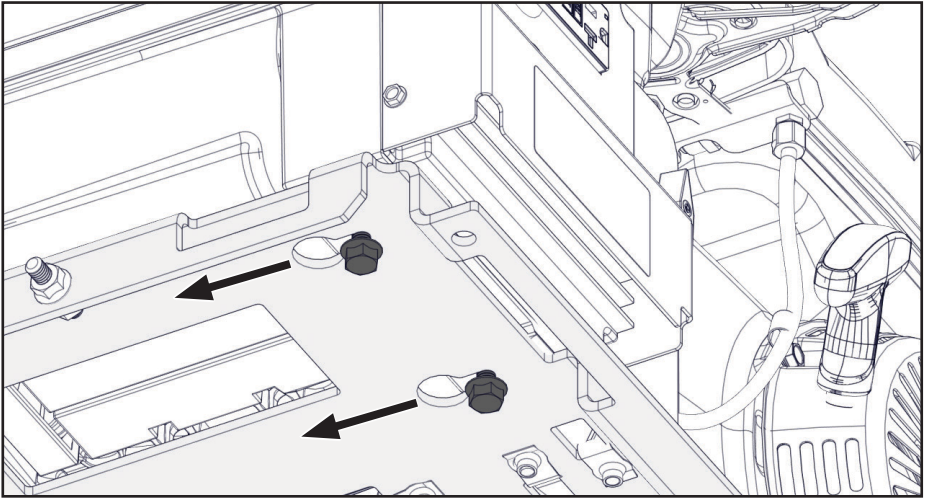

Figure 86 — Loosen front generator fasteners
- Loosen the front generator fasteners and slide the generator to the rear until the fasteners clear the keyway (Figure 86).